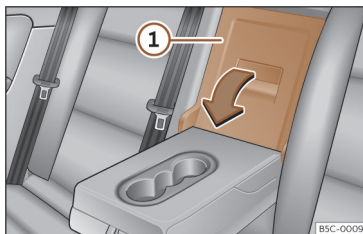

Fig. 168 On the rear seat backrest: opening the trapdoor.
- Pull the release lever in the direction of the arrow and push the trapdoor cover >>> **Fig. 168** ① down and forwards.